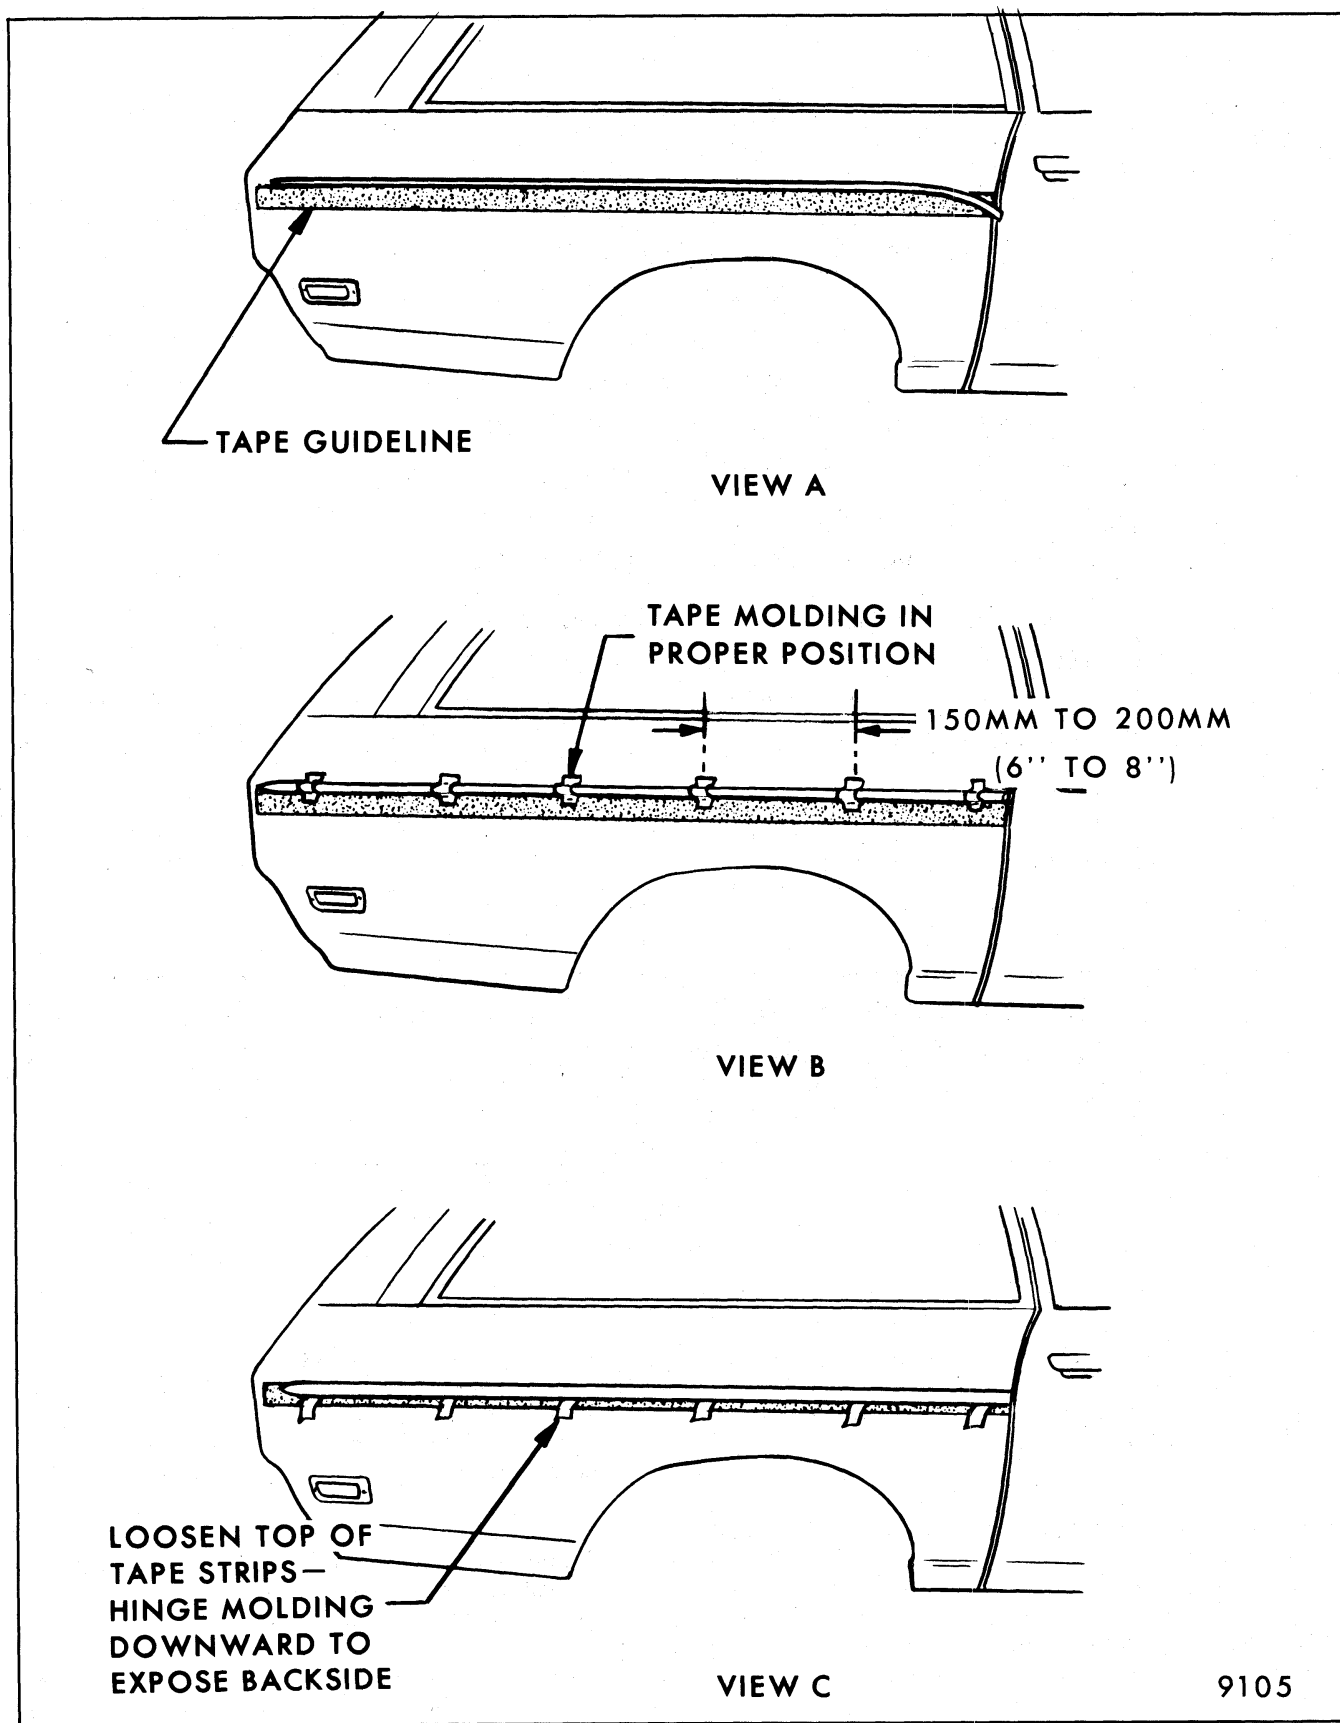

Fig. 5-20 - Adhesive Body Side Molding Replacement
2. Mark proper alignment position with a length of cloth body tape, using adjacent moldings as a guide if applicable (View "A", Fig. 5-20).
4. Hold molding in its proper position with strips of cloth or masking tape every 6 to 8 inches, View "B", Figure 5-20. If shop temperature is below 70 degrees F, warm the body panel immediately prior to adhesive application with a heat lamp or heat gun while proceeding with step 5.
position. Hinge molding downward to gain access to back of molding (View "C", Fig. 5-20), then using a circular motion, quickly apply a thin film of 3M Super Weatherstrip Adhesive or equivalent to the adhesive portion of the molding.